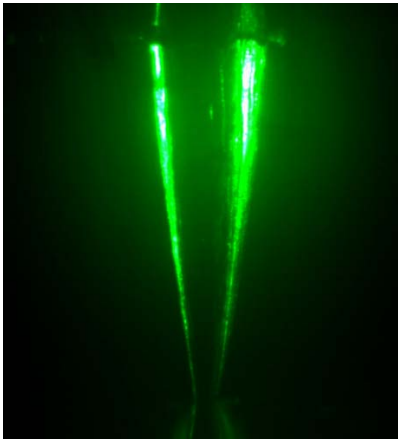

Fig.4 View through the measuring microscope with the adjustment needle in focus
- Insert the adjustment needle in the top plate of the plate capacitor and focus the microscope on the needle (see Fig. 4). Select a suitable light intensity and re-adjust the height of the measuring microscope by means of the vertical adjustment knob.